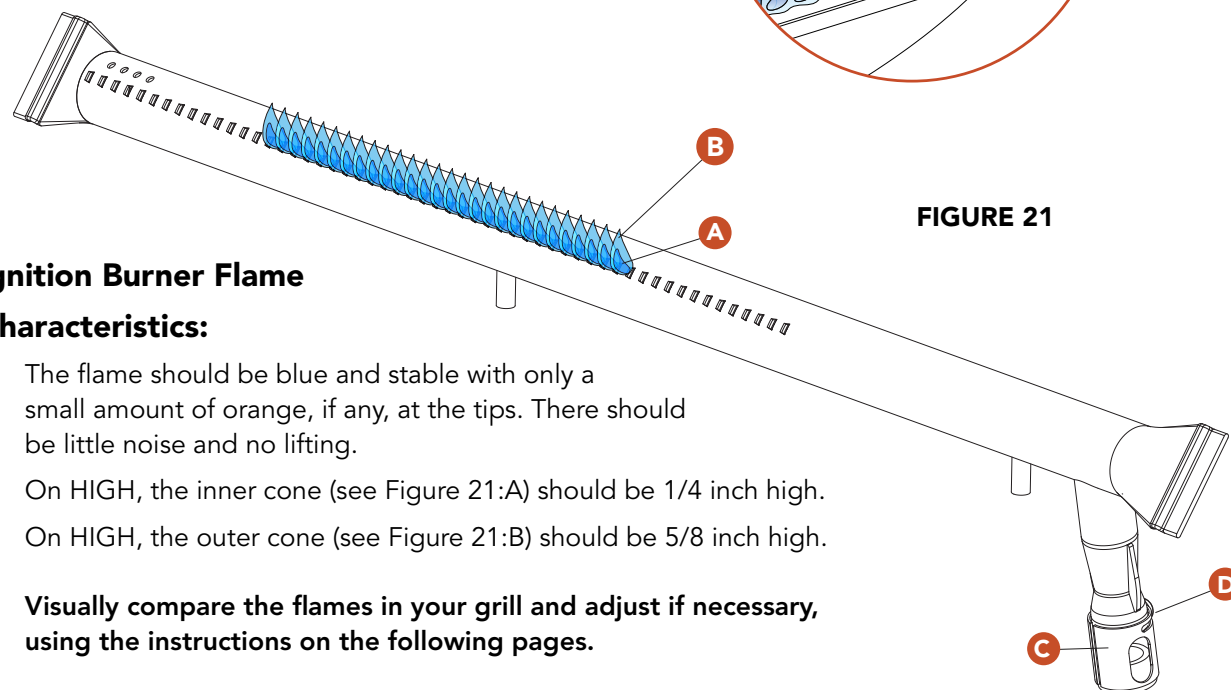

FIGURE 21
- On HIGH, the inner cone (see Figure 21:A) should be 1/4 inch high.
- On HIGH, the outer cone (see Figure 21:B) should be 5/8 inch high.